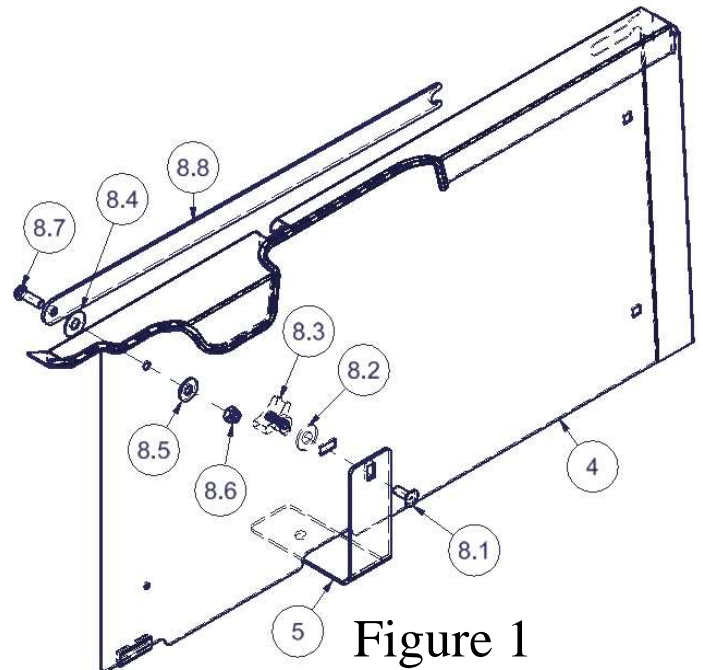

Figure 1
1. Assemble the #4 Right Panel by attaching (1) #5 Mounting Bracket, and the #8.8 Prop Rod as shown in Figure 1.